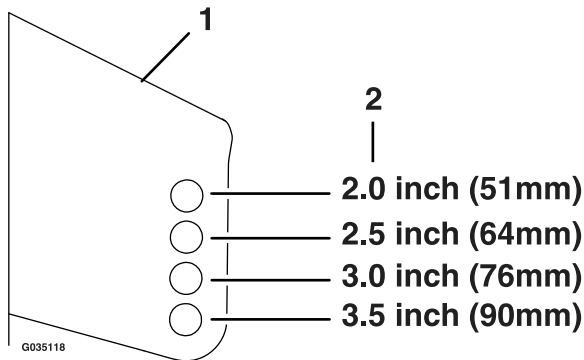

Figure 23
6. Place the rollers in one of the positions shown (Figure 23). Rollers will maintain 3/4 inch (19 mm) clearance to the ground to minimize gouging and roller wear or damage.